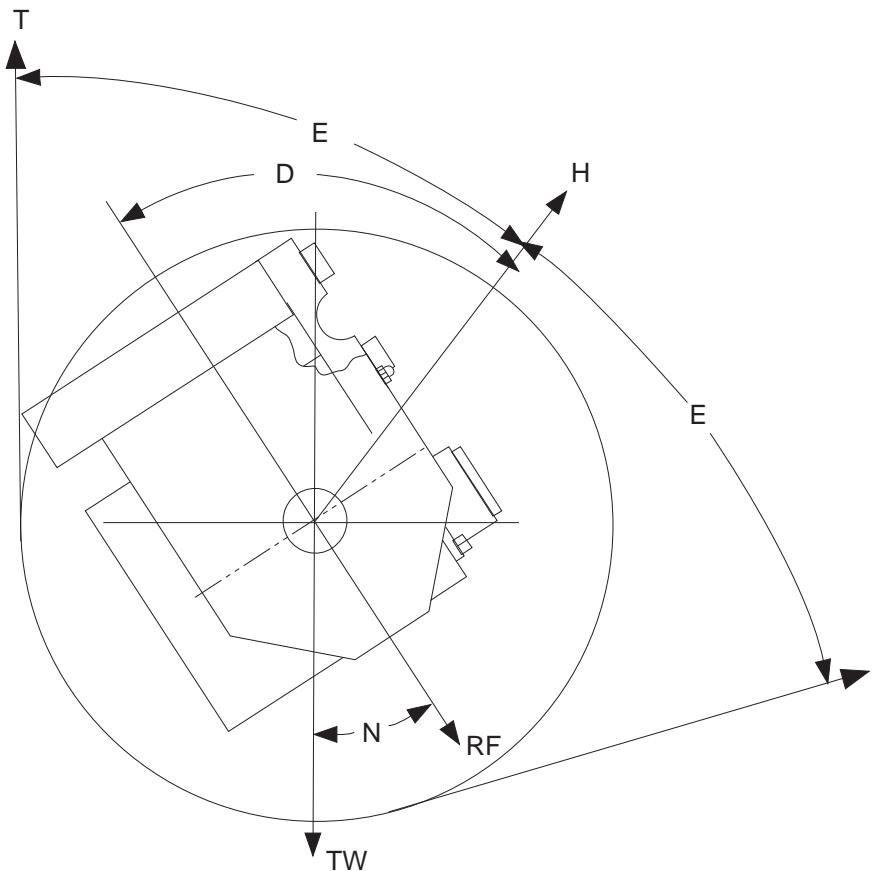

Figure 6
The resultant tare is minimized by mounting the Tensioncell so that (N) is 31°. (See Figure 6)